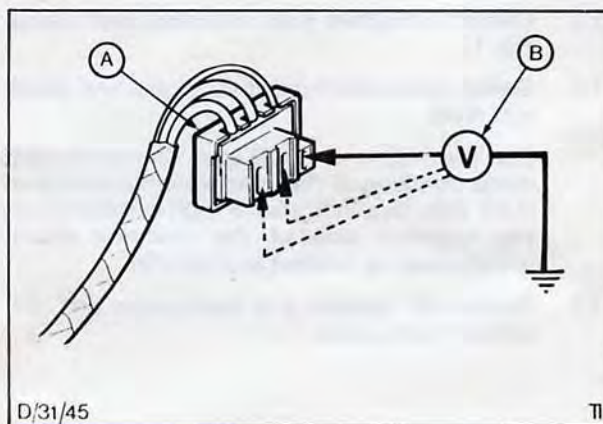

Fig. 9. Checking charging circuit wiring continuity
4. Check charging circuit wiring continuity, Fig. 9.